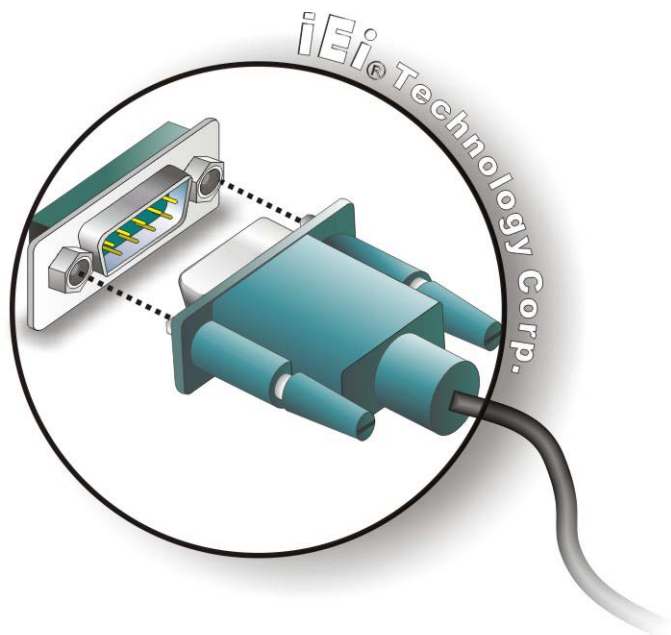

Figure 4-16: Serial Device Connector
Step 2: Insert the serial connector. Insert the DB-9 connector of a serial device into the DB-9 connector on the external peripheral interface. See Figure 4-16.